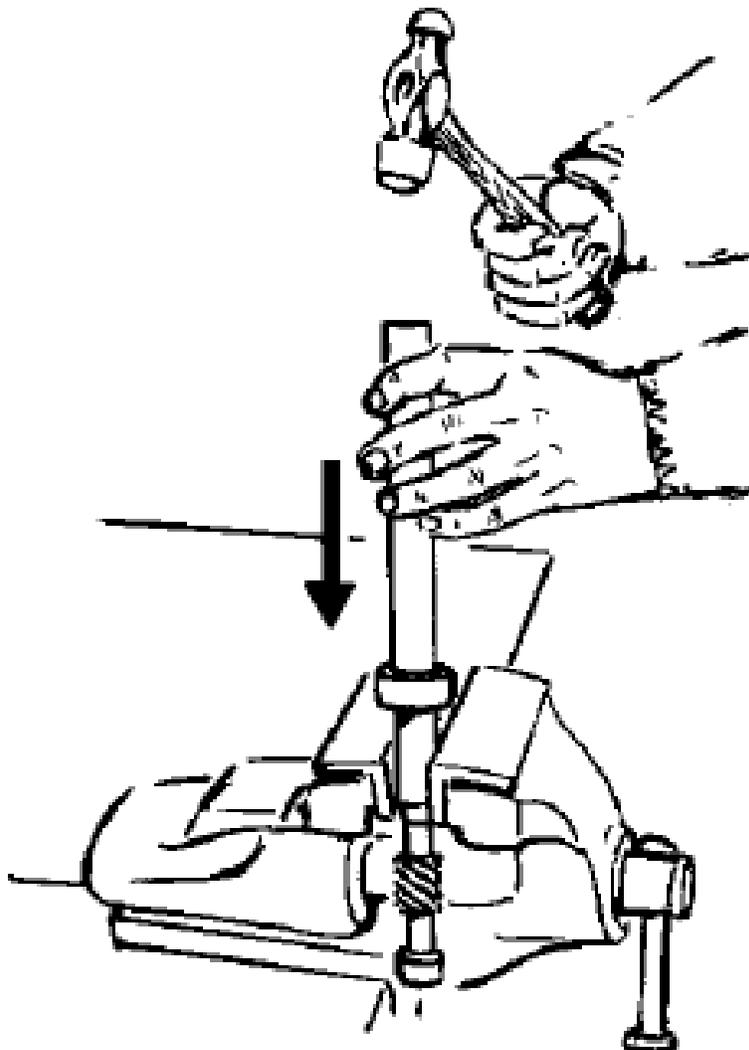

Figure 551-88L-2043\_42
- (6) Fit the bearing onto the shaft, (refer to Figure 551-88L-2043\_42).